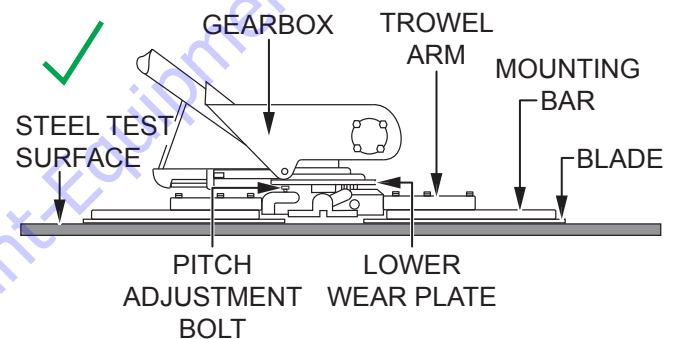

Figure 45. Blades Pitched Flat (Correct)
- Pitch the blades as flat as possible (Figure 45). The pitch adjustment bolts should barely contact (0.10 inch maximum clearance) the lower wear plate. All adjustment bolts should be spaced the same distance from the lower wear plate. If any one of the bolts does not make contact, adjustment is necessary.